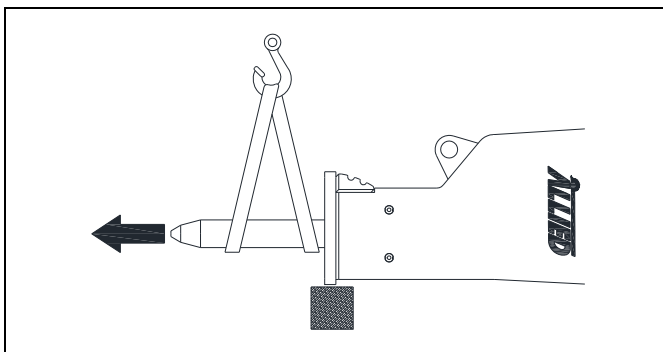

Fig. 10-4 Support Weight of Tool & Remove
5. Tool is released from Front Head. **Large Tools are Heavy!** Handle tools with a suitable hoist and sling. [Fig. 10-4].
3. **Large Tools are Heavy!** [Fig. 10-4]. Handle tools with a suitable hoist and sling. Insert tool in front head.